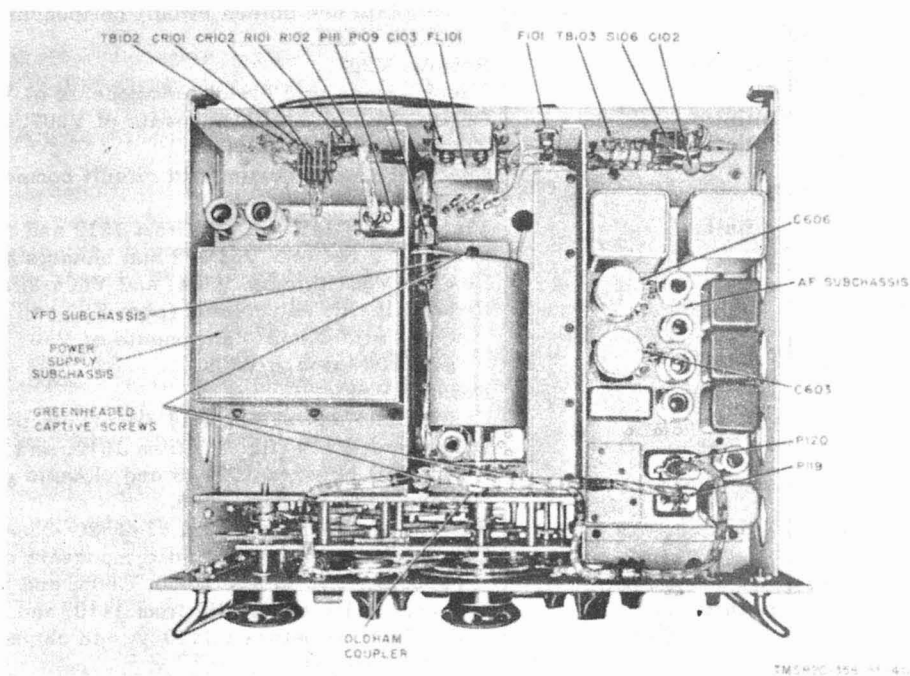

Figure 37. Radio Receiver R-390A/URR, bottom view.
Disconnect P119 (fig. 37) from J619, and connect the TS-352(*)/U between J619-5 and chassis ground.
- (1) Short circuits in the tube heater and/or oven circuits usually blow the AC 3 AMP fuse on the rear panel on the receiver. Disconnect all power plugs except P111 (fig. 37) from the power-supply subchassis and apply ac power to the receiver. Turn the FUNCTION switch to STAND BY. If tubes V801 and V802 in the power-supply subchassis light and fuse F101 does not blow, the trouble is in one of the other subchassis. If the fuse blows, the trouble is in the power-supply subchassis or main-frame wiring. Follow the procedure in (2) below for locating the tube filament or oven short.
- (2) Remove all tubes and the power plug from the subchassis to be